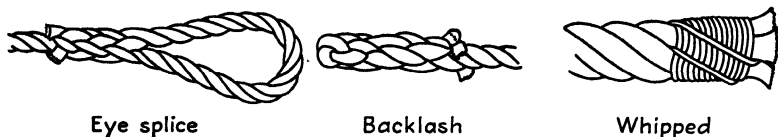

FIG. 27-2. Three ways of finishing the ends of a rope.
*Rope sizes and lengths* commonly used in linework are as given in Table 27-1. The last column lists the manner in which the rope ends are made up. The meaning of eye splice, back lash, or whipped end is illustrated in Fig. 27-2.